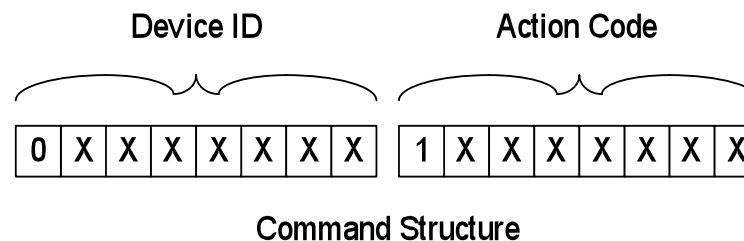

Figure 1: Example command structure
1. You would like to have multiple robots running at the same time so you need to somehow make a robot respond only to its own remote control. You decide to do this by assigning each robot a distinct address. The remote should transmit this address each time a command is transmitted. You have decided to send two eight bit codes, one address and one data. Address code must start with a ‘0’ and data codes must start with a ‘1.’ Figure 1 shows an example.